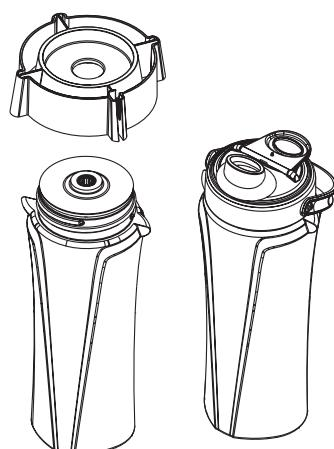

Figure 1
- Place blade assembly into cup. (See Figure 1)